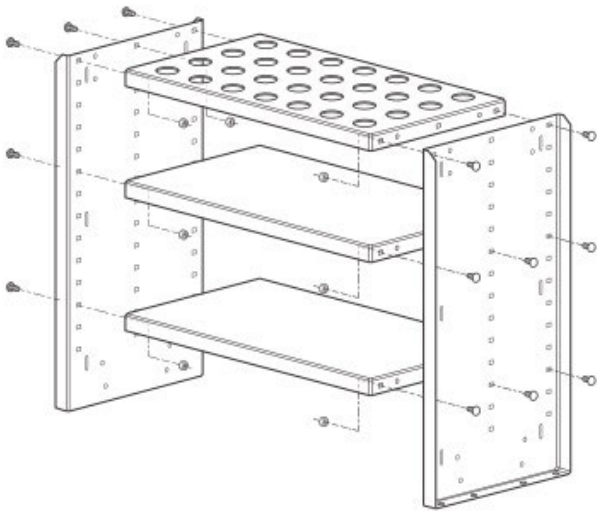

Figure 4-21
1. Using seventeen M8 x 20 Round-Head Square-Neck Carriage Bolts (item #3) with M8 Flanged Nylock Hex Nuts (item #2), attach the two Shelves (item #18) and Tooling Insert Tray (item #1) to the Side Panels (item #4) as shown in Figure 4-21. NOTE: The two shelves (item #18) can be mounted at your desired height. They can also be installed upside down and used as trays. Make sure the flanged ends of the Side Panels are facing out. **Do not fully tighten nuts at this time.**